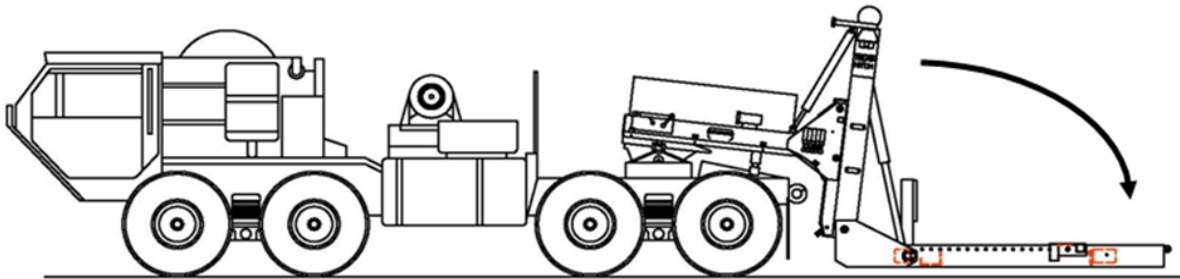

Figure 10 – FWTRD shown on prime mover in “Prepared” configuration
11. Using valve control levers, BOOM EXTEND to lower boom approximately level to and just above ground. (figure 10)